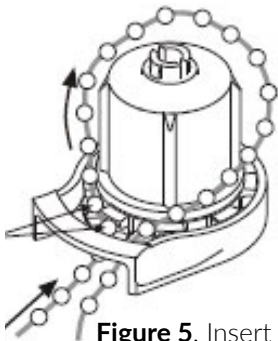

Figure 5. Insert Bead Chain
Step 3. Insert Bead Chain into the Clutch as shown in **Figure 5**.